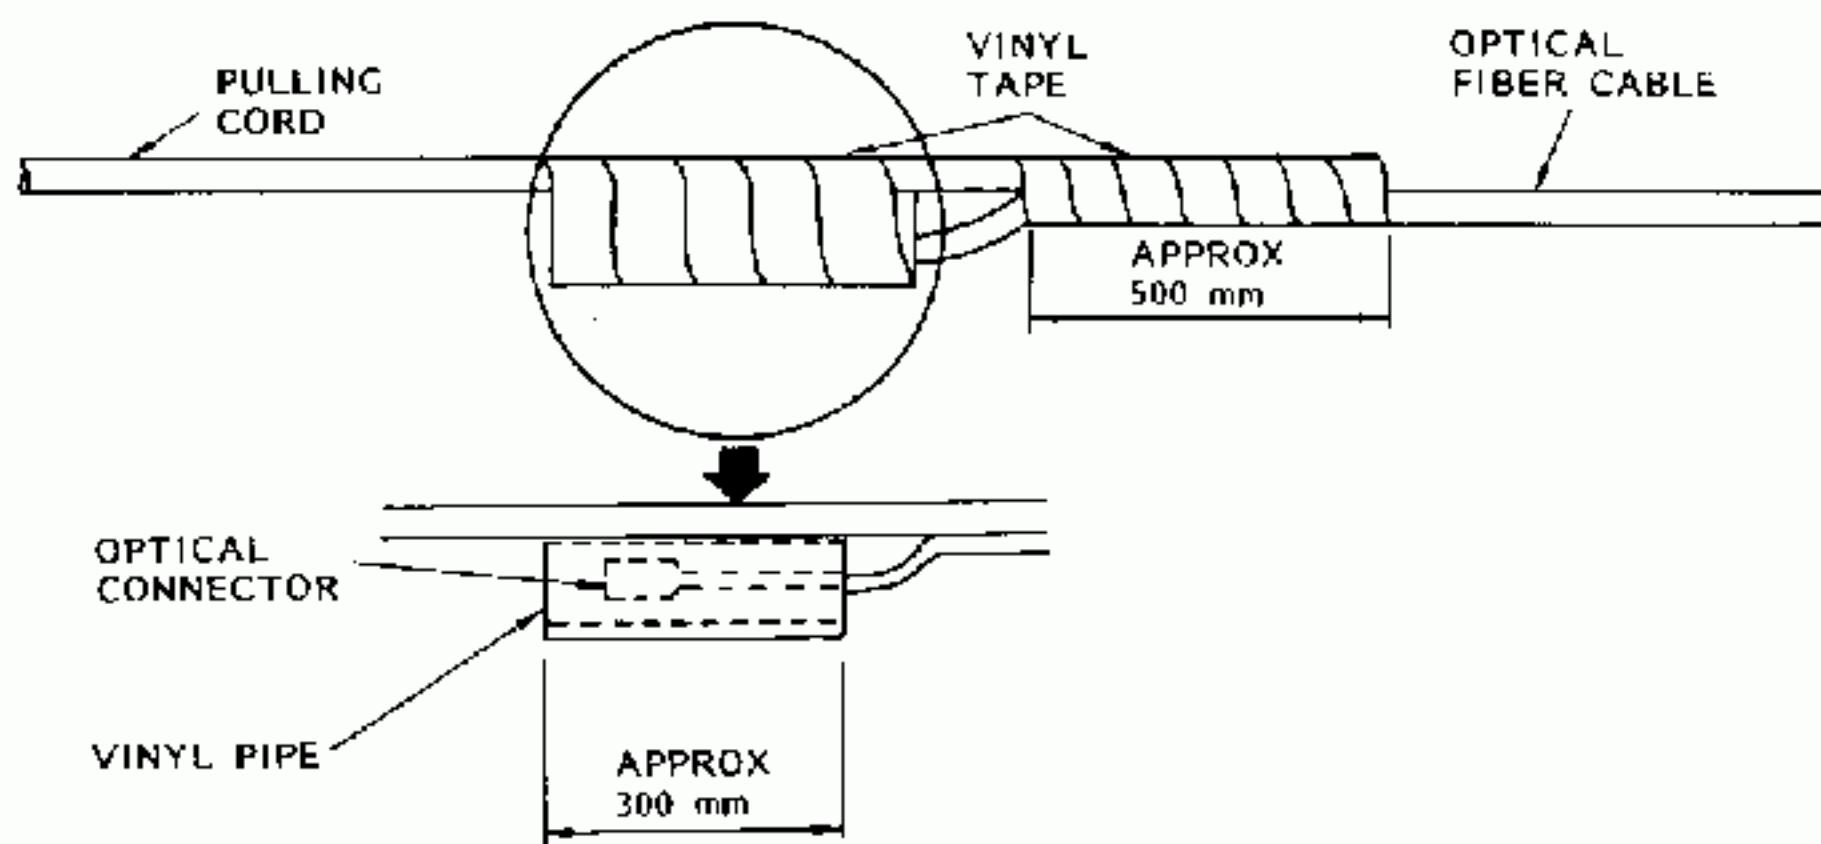

Fig. 8.5 Pulling Cord at Tip of Optical Fiber Cable
(7) Fig. 8.5 shows how to attach a pulling cord at the tip of an optical fiber cable.